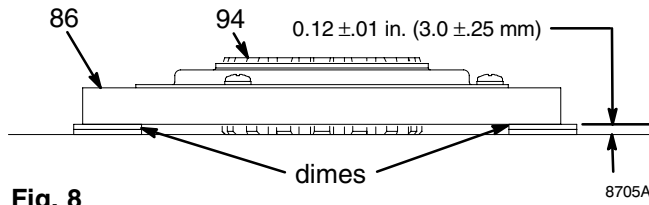

Fig. 8
2. Fig. 8. Lay two stacks of two dimes on smooth bench surface.
3. Lay armature (86) on two stacks of dimes.
4. Press hub (94) down on bench surface.